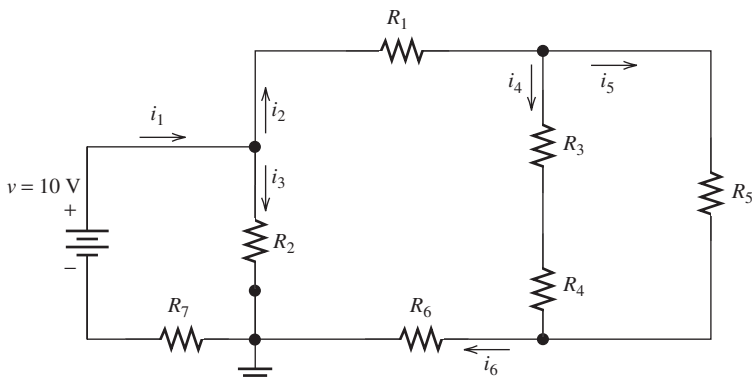

FIGURE P2.69 Circuit diagram for Problem 2.69.
2.69 (H) Given the circuit shown in Figure P2.69, assume a 10 V voltage source. Find the values of the resistor R_6 and the current i_5 , assuming: $i_2 = 1$ A, $R_1 = R_5 = 2 \Omega$, $R_2 = 4 \Omega$, $R_3 = R_4 = 1 \Omega$, $R_7 = 3 \Omega$. Verify the answer through PSpice software using the value of R_6 obtained from calculation.